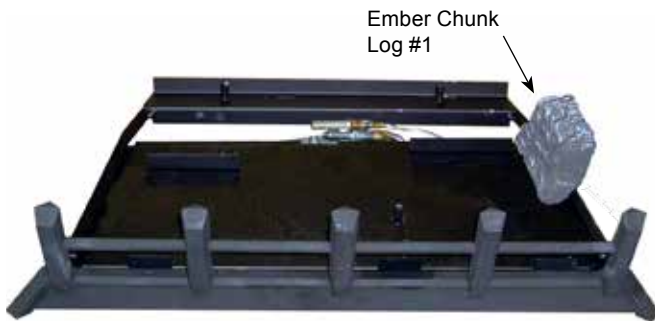

Figure 35.
1. Place the #1 log (the "chunk") on the grate bar right side of the burner adjacent to the controls. Figure 35.